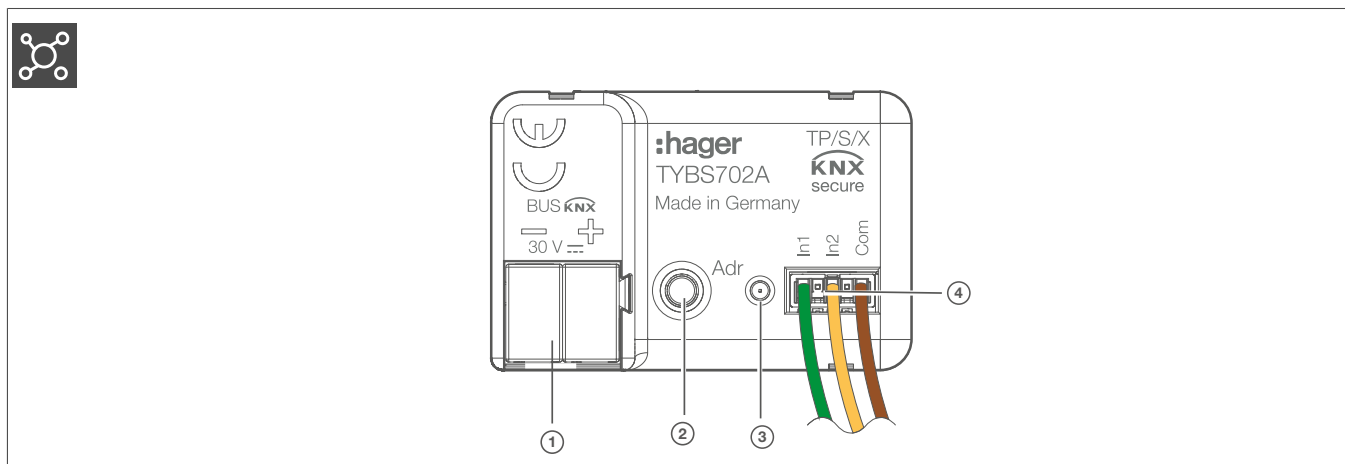
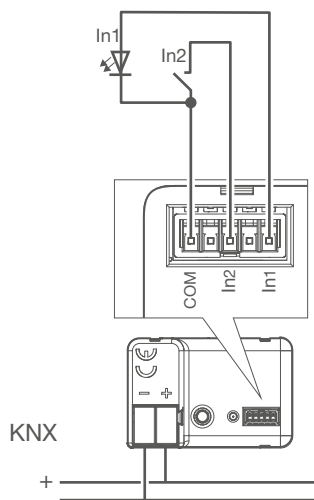

Fig. 2: Design and layout of the device TYBS702A
Fig. 5: Connection example, 2-gang push-button interface
- 4 Connect the push buttons, switches, contacts, LEDs or NTC with the supplied connection cables according to the connection examples (Fig. 2/4) (Fig. 5). Unused wires must be insulated.
- 3 Press the programming button (Fig. 2/2).
- The programming LED (Fig. 2/3) lights up.